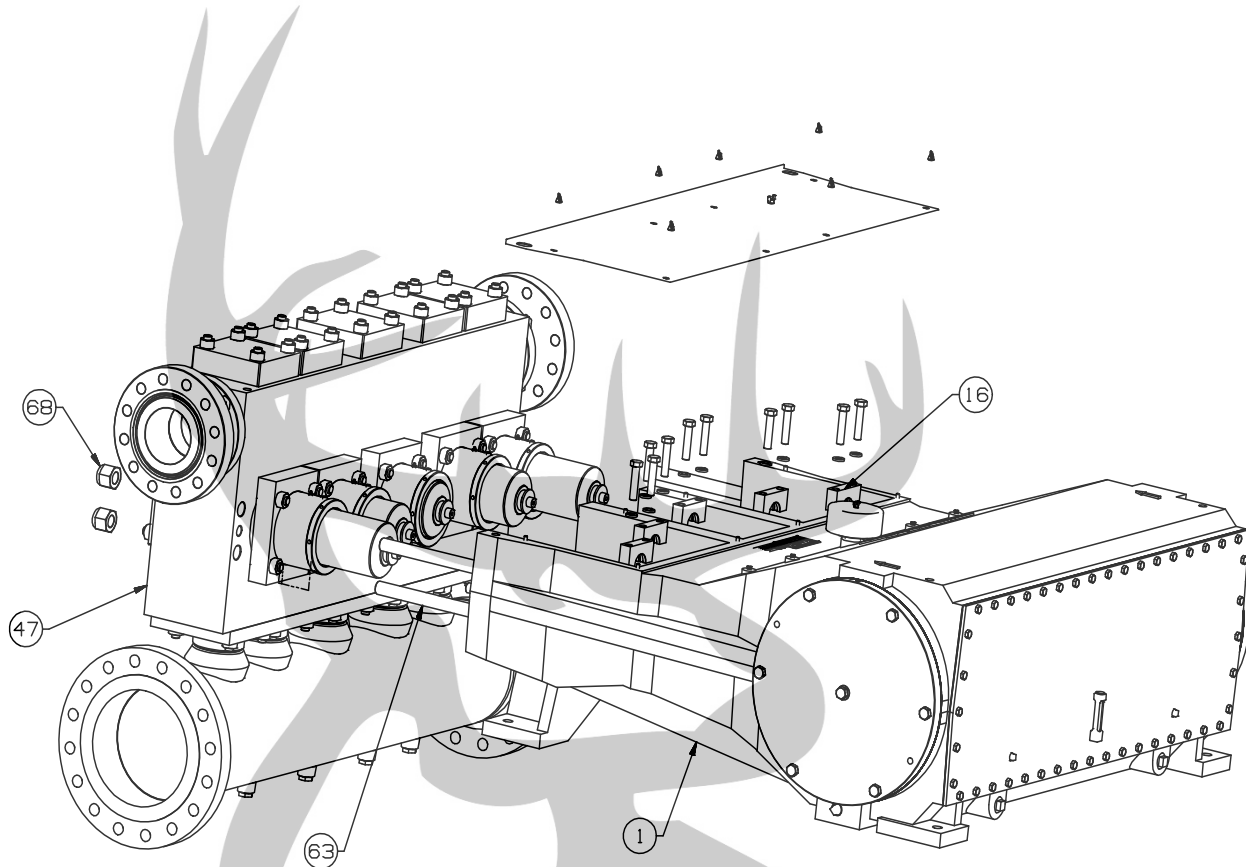

Figure 6: Fluid Cylinder Removal
Refer to Figure 3 and Figure 6 for location of components.
2. Unbolt the plunger clamps (16) and remove them from the plungers (55) and plunger rods (6). Slide all of the plungers forward as far as possible. Refer to Section 10.1, paragraph 4 for detailed instructions on sliding the plunger forward.
4. Remove the lock nuts (68) holding the fluid cylinder assembly on to the power frame (1). Support the weight of the fluid cylinder assembly and slide the assembly away from the power frame. CAUTION: Stand clear as the fluid cylinder slides off the studs (63). Refer to the illustration in Figure 6.
7. Reverse the previous steps to rebuild the fluid cylinder assembly after damaged components have been replaced. Make sure that the dowel pins (39) are in good condition and are in place before installing the fluid cylinder assembly. FMC suggests that all seals or gaskets that are disturbed during a service procedure be replaced.
8. Insure that all fasteners are tightened to the values specified in Fastener Torque Requirements, Section 11.0 of this manual. Use a crisscross tightening pattern in three stages. Tighten to 25%, 50%, and then 100% of the full torque values. Please note that if the nuts (68) on the fluid cylinder studs (63) are not properly torqued, a failure is likely.